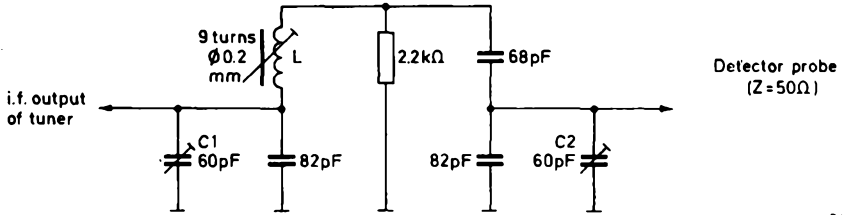

Fig. 7
- (3) Adjust the trimmers C1 and C2, coil L (fig. 7) and the i. f. output coil of the tuner (L21), to get the resonant curve with maximum gain as shown.